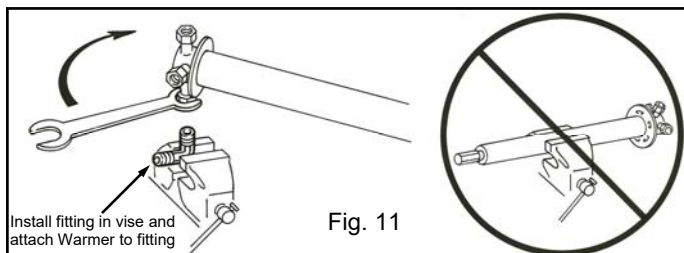

Fig. 11
20. Install the appropriate plumbing fittings determined in Step 18. To install a fitting, place the fitting into a vise and turn the “Hot Fox” onto the fitting. Then tighten using a 1” open-end wrench on the hex coupling of the Warmer. Refer to Fig. 11.